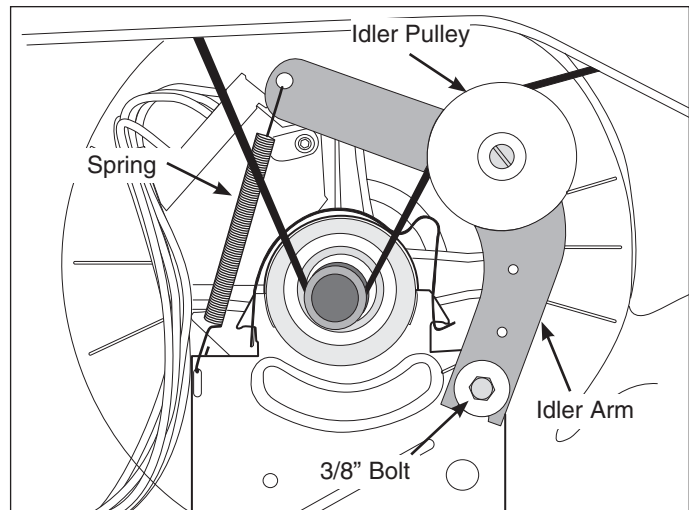

Figure 4-37.
2. Using a 3/8" socket or wrench, remove the bolt securing the belt tensioner to the motor mounting bracket. (See Figure 4-37)